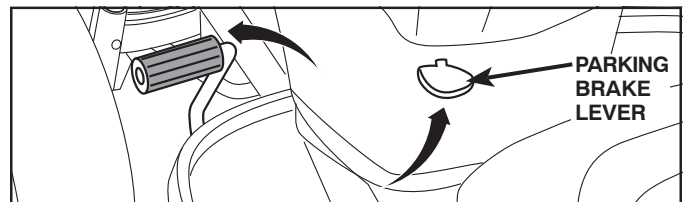

Fig. 3
TO INSTALL MOWER AND BLADE DRIVE BELT (See Figs. 3 - 16)
1. SET PARKING BRAKE LEVER AND LOWER ATTACHMENT LIFT LEVER (See Fig. 3 and 4)